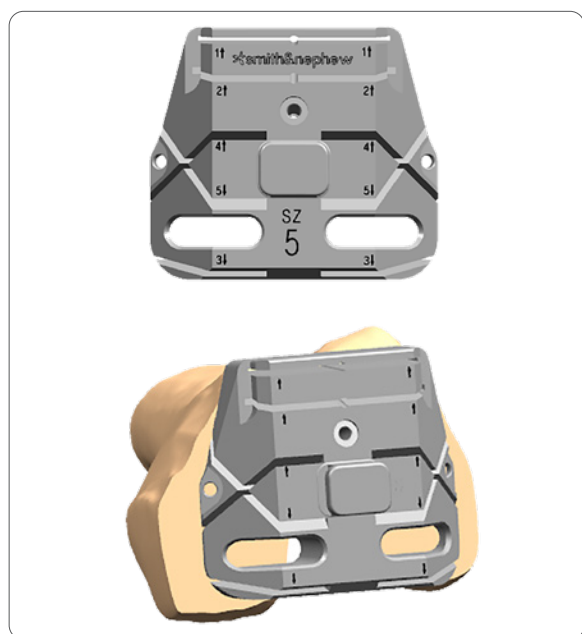

Figure 110
1. Position the spikes on the Fixed A/P Femoral Block into the pre-drilled holes. Use the Mallet to impact the Fixed A/P Block until it is flush with the resected distal femur (**Figure 110**).